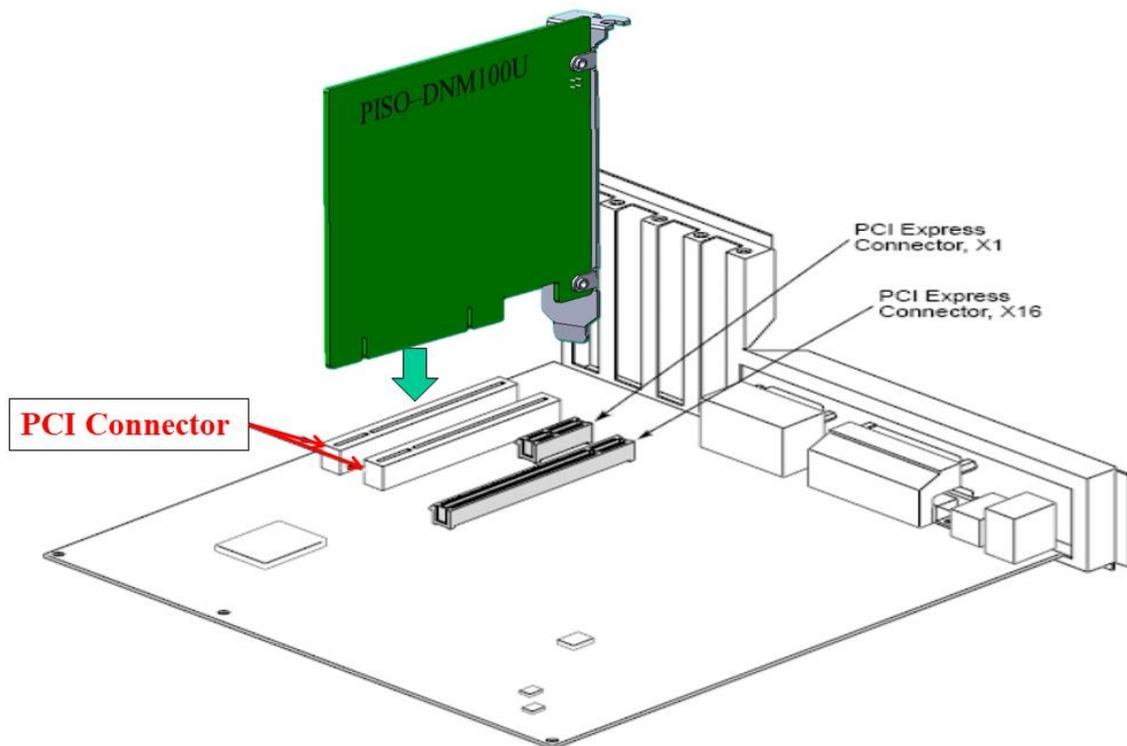

Figure 2.5 PISO-DNM100U installation
4. Find an empty PCI slot for your PISO-DNM100U-D/T or an empty PCI express x1 slot for your PEX-DNM100-D/T on the motherboard of the personal computer. Plug the configured PISO-DNM100U-D/T or PEX-DNM100 into this empty slot. See Figure 2.5 or 2.6.